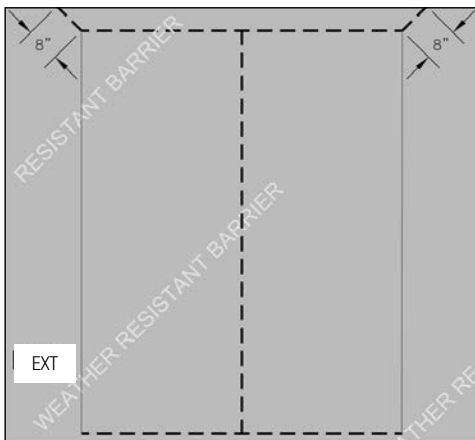
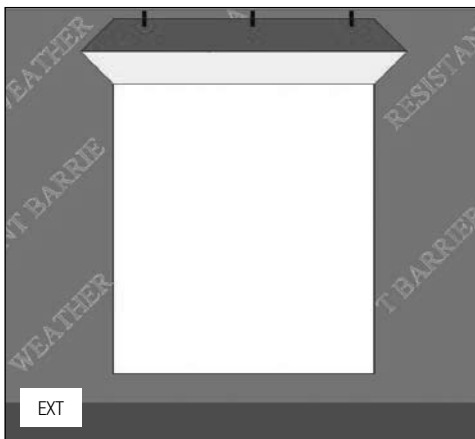

FIG. 5
FIG. 6
- E) Make an "I-Cut" in the weather-resistant barrier (WRB). Begin with a horizontal cut along the bottom and the top of the rough opening. Then make a vertical cut in the center from top to bottom. (Fig. 5)
- F) From the exterior, make two diagonal cuts at the top of the "I-Cut" to form a flap. (Fig. 5) Temporarily tape this top flap up. (Fig. 6)
- G) Fold side flaps into rough opening and secure to inside wall. Cut off excess flap if desired. (Fig. 6)